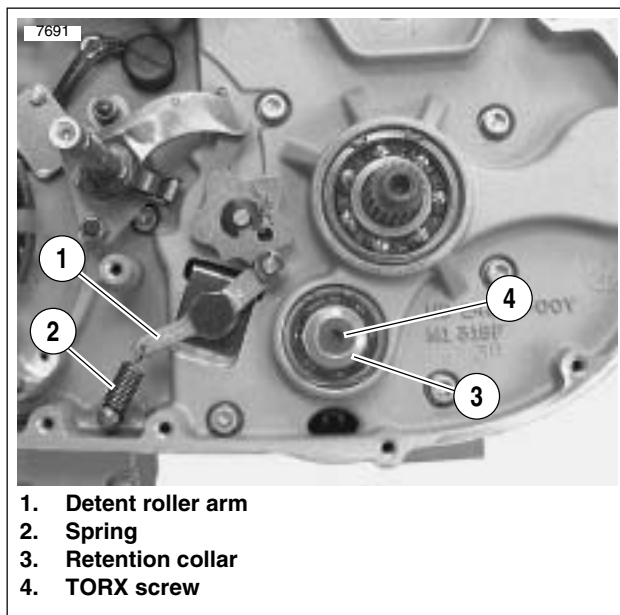

Figure 6-24. Countershaft Retainer
8. See Figure 6-24. Place transmission in gear. Remove countershaft TORX screw (4) and retention collar (3).